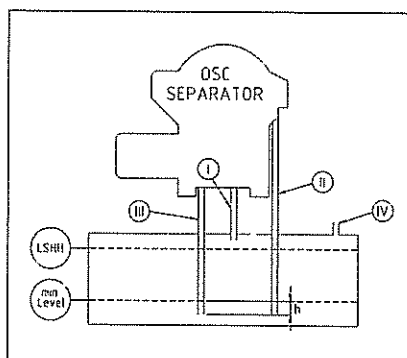

Fig. 74
- Discharges I, II and III must be configured as illustrated in Fig. 74).